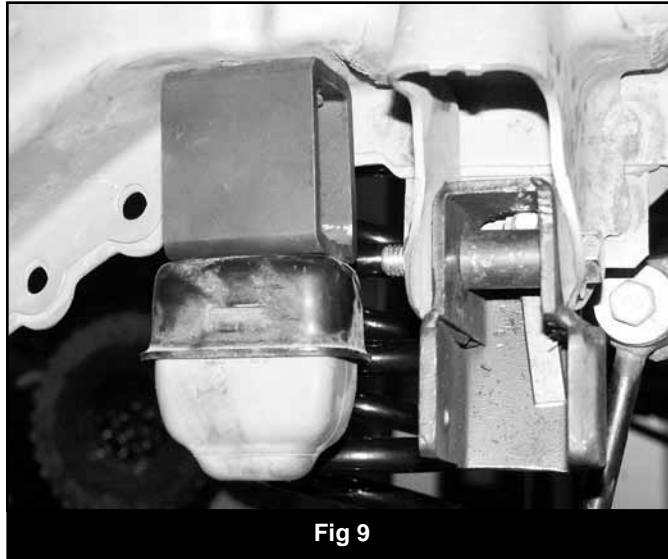

Fig 9
22. Install the provided front bump stop spacers (01489) in conjunction with the OE bump stop mounting cups (Fig 9). Run the provided 8mm x 100mm bolts and $\frac{5}{16}$ " USS washers (BP #725) through the OE mounting cup, the new spacers and into the original threaded mounting holes in the frame. Use Loctite on the threads and torque bolts to 15 ft-lbs.